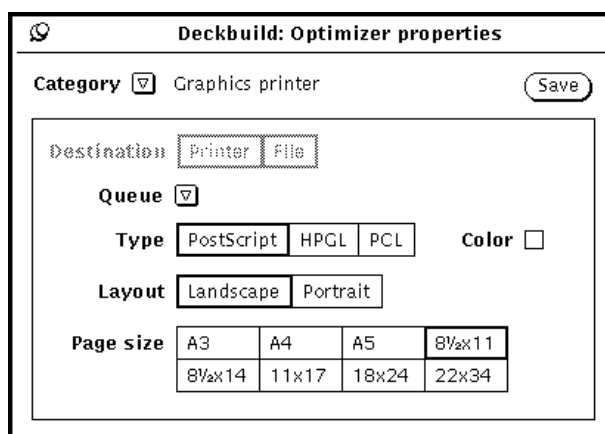

Figure 6-29: Optimizer Properties Popup - Graphic Printer Category
1. Press **Properties...** on the **Optimizer** window and the **Optimizer Properties** popup will appear. Change the **Category** in the upper left corner to **Graphics printer** (Figure 6-29).